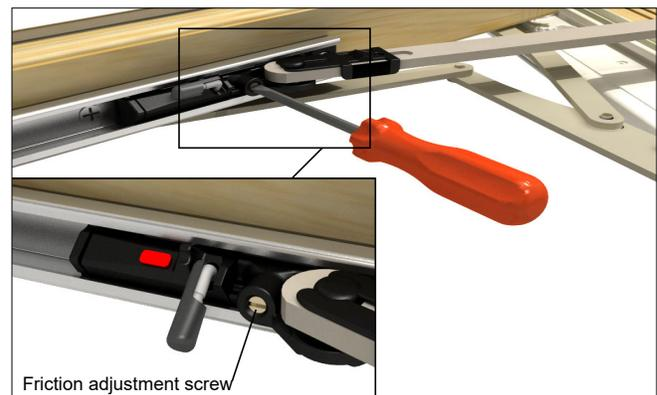

Figure 2
1. Operate the sash back and forth to check operation of the friction limiter; if necessary, adjust friction screw on the limiter to increase or decrease limiter operating force. See figure 2.